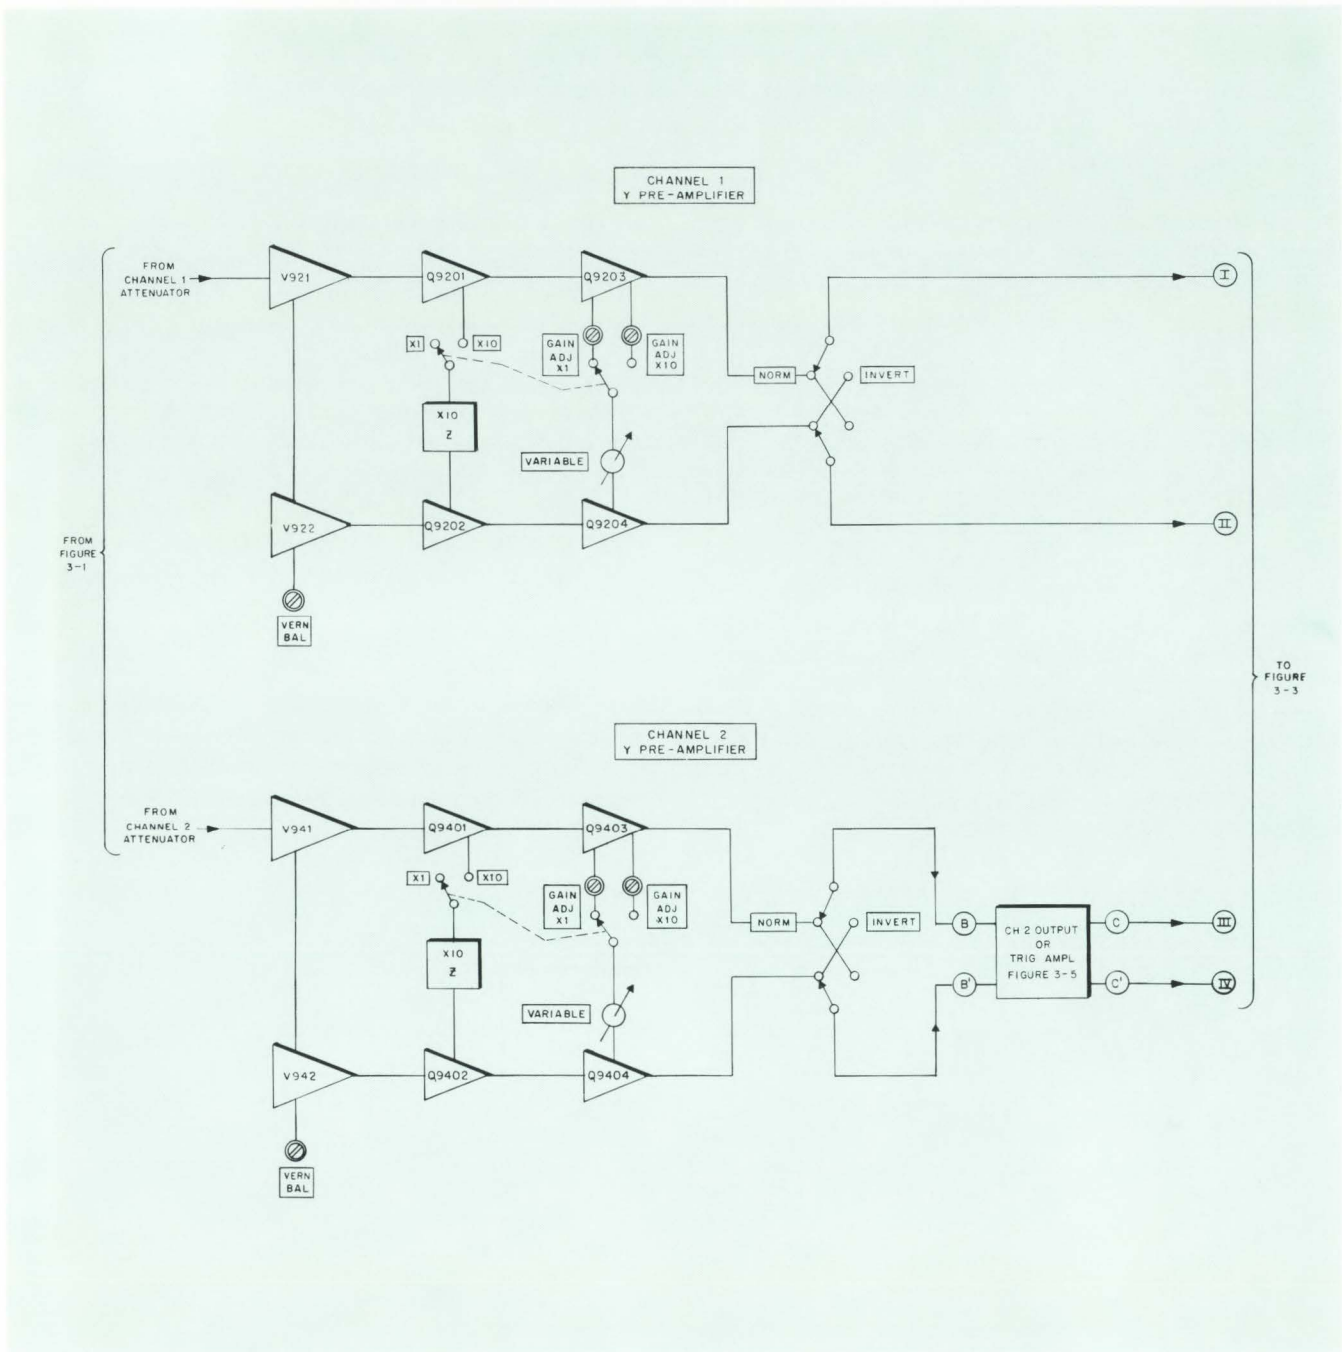

Figure 3-2. Type 76-08 Channels 1 & 2, Simplified Functional Block Diagram
- Figure 3-2. Type 76-08 Channels 1 & 2, Simplified Functional Block Diagram
b. Pre-Amplifier (Figure 3-2)